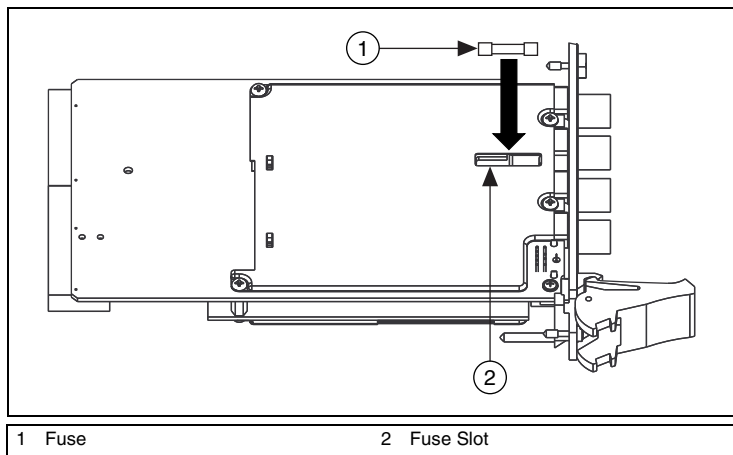

Figure 21. Replacing the Blown Fuse in the NI PXI-4070, NI PXI-4071, or NI PXI-4072
9. Insert a new fuse into the fuse slot as shown in Figure 21.